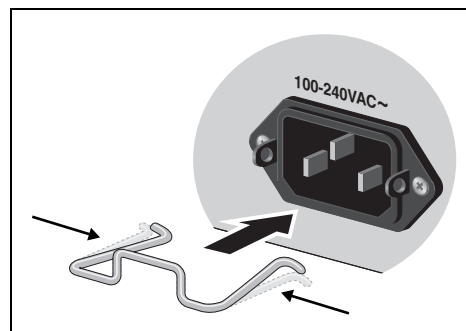

Figure 39. Inserting the Retaining Clip into the Retaining Bracket
2. Install the clip on the AC power connector on the rear panel of the switch. With the 'u' of the clip facing down, press the sides of the clip toward the center and insert the short ends into the holes in the retaining bracket, as shown in Figure 39.